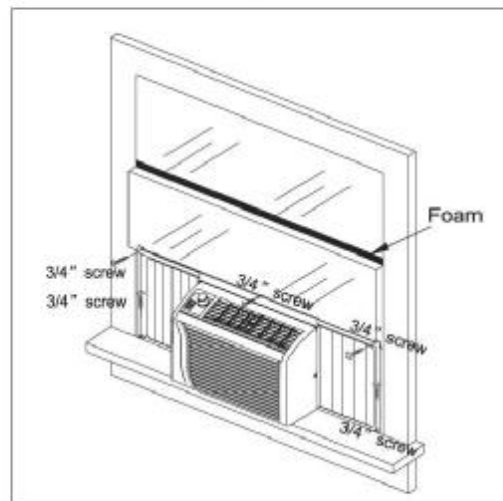

Fig. 6
6. Carefully lift the air conditioner and slide it into the open window. Make sure the bottom guide of the unit drops into the notches of the L brackets. When the air conditioner drops into the L brackets, the air conditioner will be centered in window opening as shown in Fig. 6.
Fix top channel to window sash with one 3/4" screw, and fix *side curtain frames* with four 3/4" screws as shown in Fig.6.